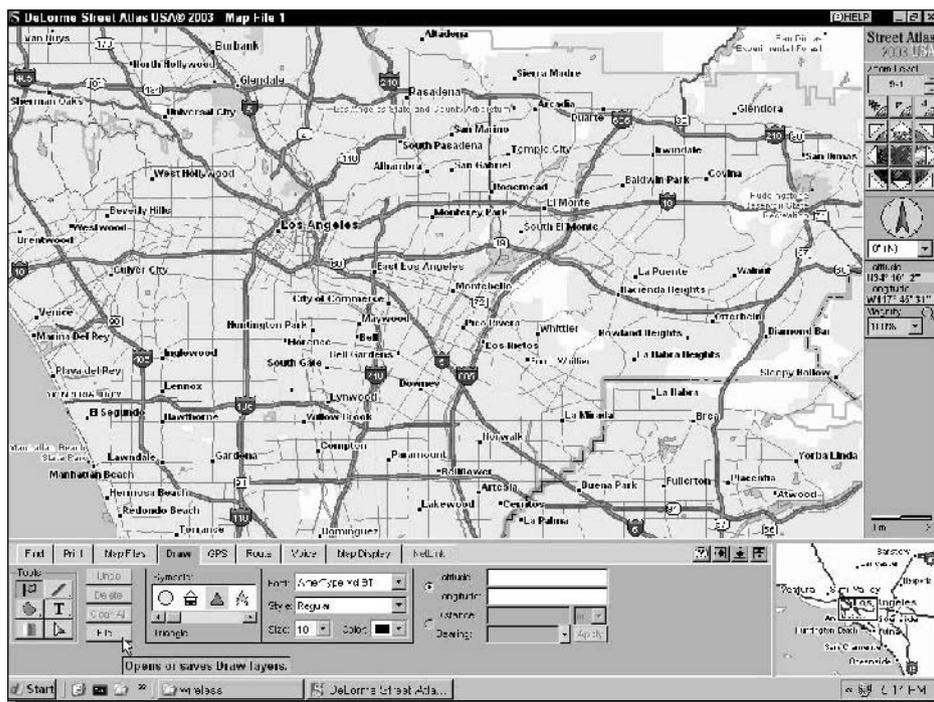

FIGURE 7-13: DeLorme Street Atlas USA preparing to import.
7. Click the File button (see Figure 7-13).